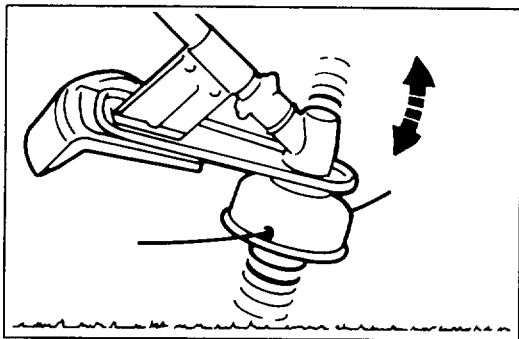

Figure 8
LENGTHENING CUTTING LINE (Fig. 8)
1. To lengthen line, firmly tap spool on the ground with the engine running at half cutting RPM (Fig. 8). The line will be fed from the spool and cut off to the proper length by the cutting knife attached to the shield.